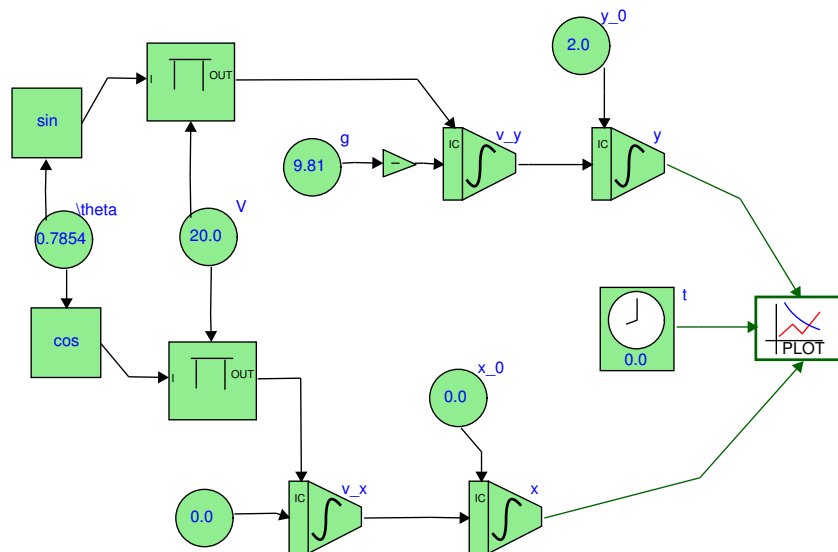

Figure 1: Causal Block Diagram of a thrown ball
5. For all models (not only for ODE models), an algorithm to print out the  $\text{L}^{\text{A}}\text{T}_{\text{E}}\text{X}$  form of a model (the denotational semantics). Both the "naive" and the "sophisticated" format are possible. In the "naive" format, for each block in the model, the relationship between all connected signals is given. Note that this will only give a meaningful result if *all* signals have a non-empty-string name. In the "sophisticated" format (as a human modeller would write it), some signals may have an empty name as they will not be written explicitly. In this format, all constant equations are written separately and there is one equation for each Integrator, Derivative, or Delay block. For example, the Causal Block Diagram of a thrown ball depicted in Figure 1 could be represented in  $\text{L}^{\text{A}}\text{T}_{\text{E}}\text{X}$  as